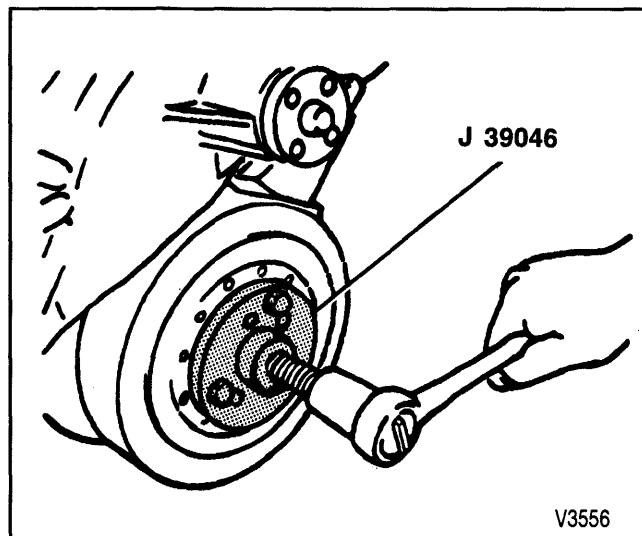

Figure 19—Removing the Torsional Damper
Remove or Disconnect (Figures 19 and 20)
5. Torsional damper. Use J 39046 (figure 19).